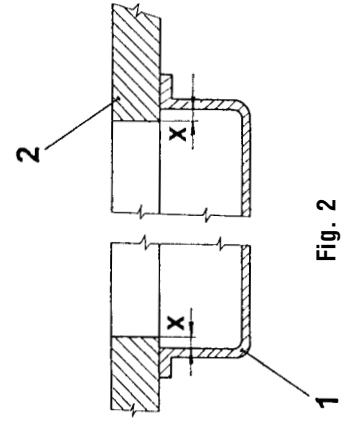

Fig. 2
5.1 Assembly of stand table top (Fig. 2, 3, 4, 5)
Put the rubber inserts for placing the machine head into the stand table top into the recess (2 and 3, Fig. 5). For better fastening, we recommend to stick on the inserts. When mounting the tray (1, Fig. 2) be sure in maintaining the distance "X" on the whole perimeter of the tray between the interior of the tray and the perimeter of the stand table top recess (2).